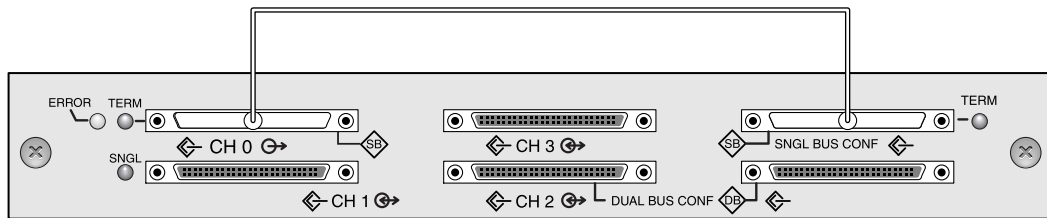

Figure 2-10 Single-Bus Connection: All Drives are Assigned to a Single Channel (CH 0)
1. To configure a RAID array as a single-bus configuration, connect the SCSI jumper cable between the SCSI ports labeled “CH 0” and “SNGL BUS CONF” as shown in Figure 2-10. Tighten the cable jack screws with six full clockwise turns to ensure proper connection and operation.